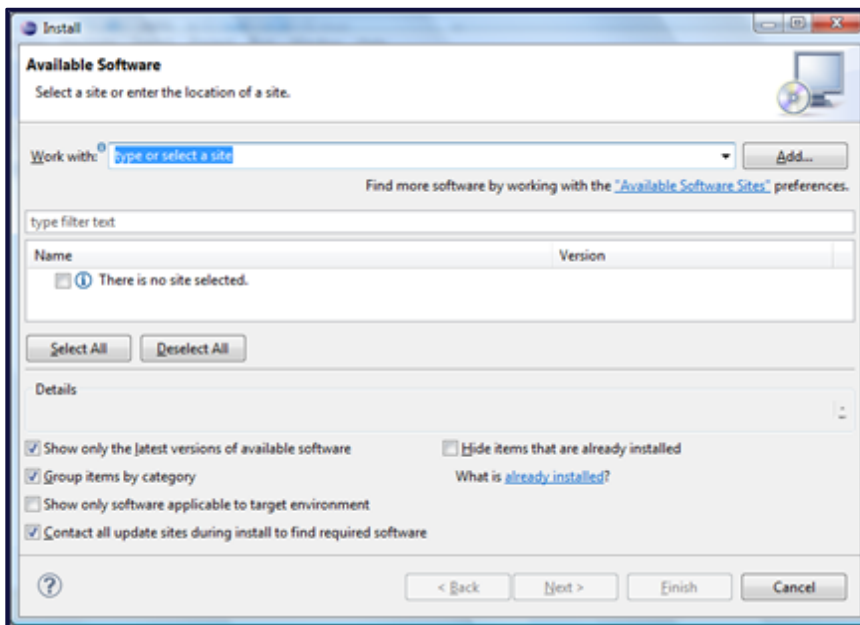

Figure 7: New Software installation window
- From Eclipse, click **Help > Install New Software** (Figure 7).